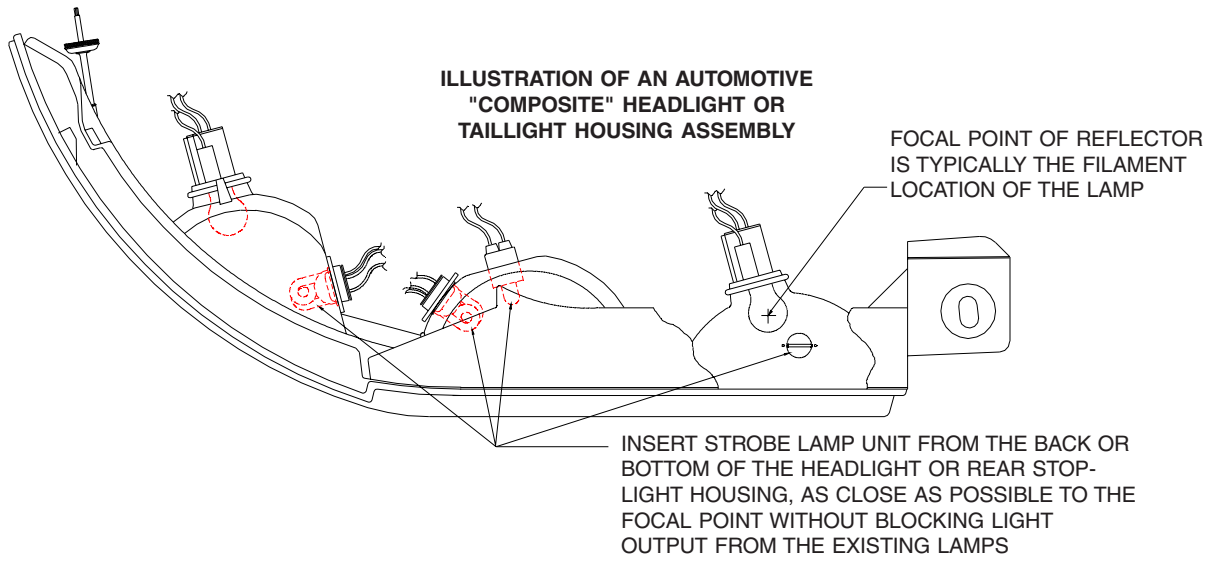

FIGURE 2
1. Select the desired mounting for the Hide-A-Way strobe light assembly, keeping in mind that the strobe light will share the same reflector as the headlight, brake light or turn signal lighting. Make sure that the Hide-A-Way Strobe Light does not interfere with the proper operation of these lights see Figure 2.
2. Remove the reflector assembly from the vehicle. Choose a surface in the rear or bottom of the housing which is as flat as possible and as close to the reflector focal point as possible see Figure 2. Using a one inch diameter hole saw, cut a clearance hole for the Hide-A-Way strobe light in the housing as shown in Figure 3 (figure 3 may be used as a template). If installing the flange style tube, mark the location of the holes for the two mounting screws, then with a .078 inch bit, drill both holes. Remove the backing from the flange gasket to expose the adhesive. Carefully stick the gasket to the reflector assembly ensuring that it is properly aligned with the three predrilled holes. Place the strobe light head flange onto the strobe tube assembly, Twist clockwise until it stops.